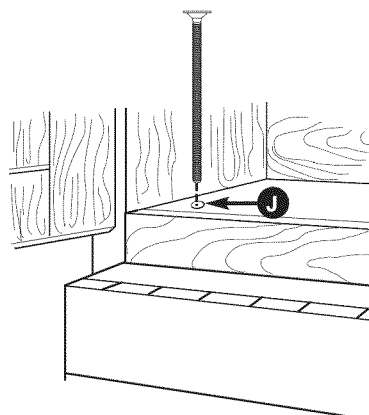

Figure 31
3. Then insert a bolt down through each hole in the upper cabinet bottom. See Figure 31. Tighten the bolts until the gap between the upper cabinet and microwave oven is closed.